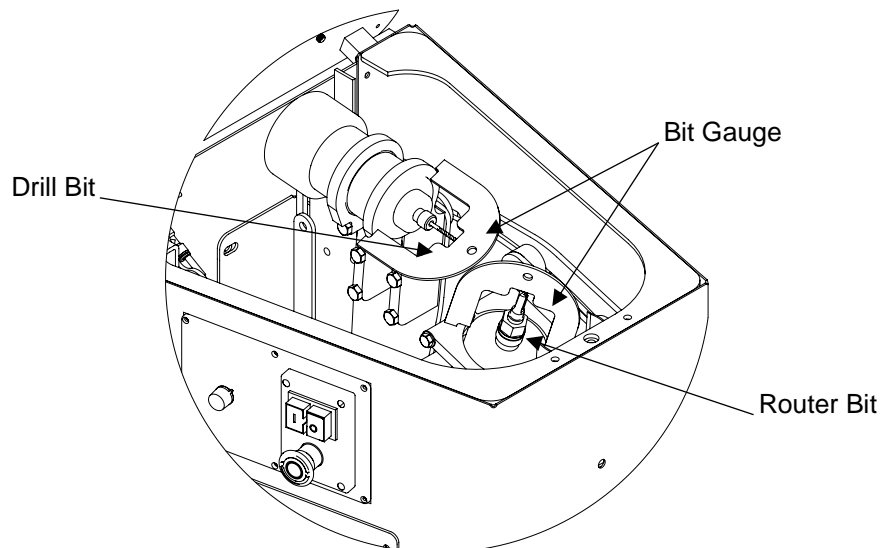

Figure 22: Installing Motors (SPM301 shown)
1. Install the appropriate bit into the collet, finger tighten. A Drill Bit should extend approximately 1-1/4" from the end of the collet, (Fig. 22). A Router Bit should extend approximately 1-5/8" from end of collet (Fig. 22). Tighten Collet. This setting is for motor installation reference only, do not cycle the machine until step 5 is complete!
2. Mount the motor into its bracket(s), (Fig. 22) using the appropriate Bit Gauge (Fig. 22) to assist in aligning the motor in the correct position. Tighten the bolts securing the drill motor and/or router motor.
3. Position the Bit Gauge (Fig. 22) against the drill mount (Fig. 22) or router mount and confirm the bit is up against the bottom of the Bit Gauge.
Always use supplied Bit Gauge (Fig. 22) when installing router or drill motors or bits. Failure to do so could result in the bits colliding with each other or the machine table when the machine is cycled. If your guide is missing or damaged contact SSM for a replacement.